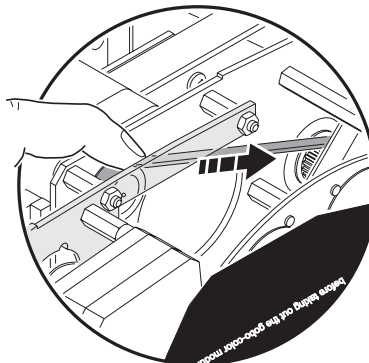

Figure 17: Retracting the gobo animation wheel
6. Flip the head top side up again. To avoid bending the gobo animation wheel when you remove the module, move the wheel in towards the center of the module by inserting a finger and rotating the positioning belt idler pulley at the top of the module as shown in Figure 17.